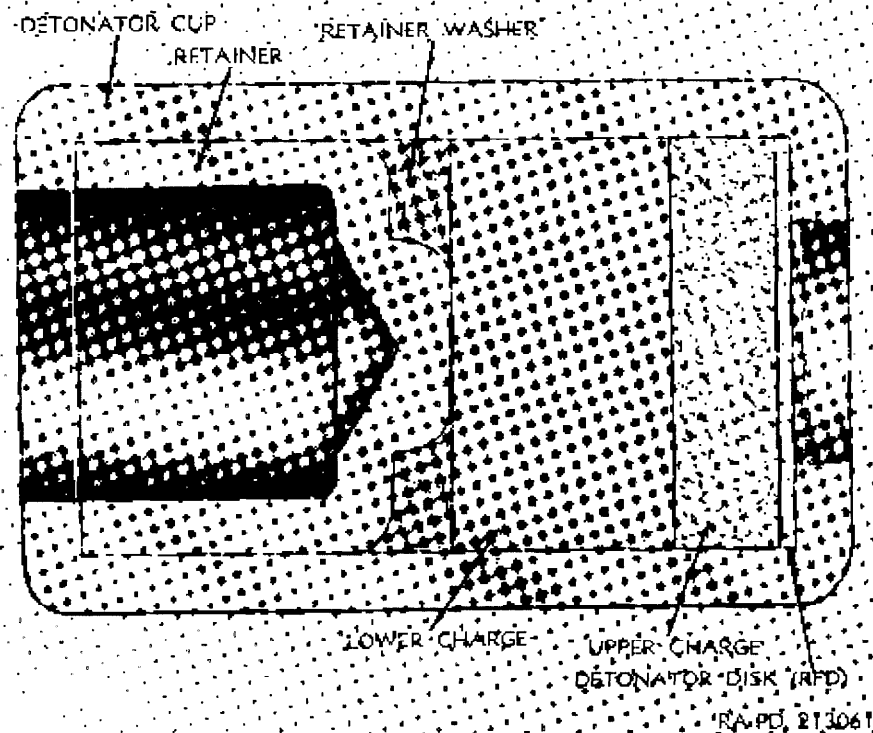

Figure 19. Typical detonator.
- (1) *General.* A detonator (fig. 19) is used in the explosive train to transmit a detonation wave to the booster charge, booster lead, or burster. Two types of detonators are employed in recoilless rifle fuzes: one contains a primer mixture as the upper charge, for initiation by stab action of a firing pin; another contains a fine wire or other high-resistance electric circuit in physical contact with a heat-sensitive primer mixture. Passage of an electric current through the high-resistance circuit generates heat, which initiates detonation in the primer mixture. Most detonator cups and disks are of aluminum. Table I lists the various detonators used in fuzes and boosters for recoilless rifle ammunition, indicating their use, dimensions, color identification, and type of initiation.